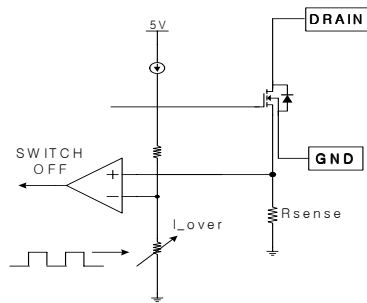

Figure 8. Soft Start Function
5. Soft Start : The FPSTM has an internal soft start circuit that increases the feedback voltage together with the Sense FET current slowly after it starts up. The typical soft start time is 15msec, as shown in figure 8, where progressive increments of Sense FET current are allowed during the start-up phase. The pulse width to the power switching device is progressively increased to establish the correct working conditions for transformers, inductors, and capacitors. The voltage on the output capacitors is progressively increased with the intention of smoothly establishing the required output voltage. It also helps to prevent transformer saturation and reduce the stress on the secondary diode.